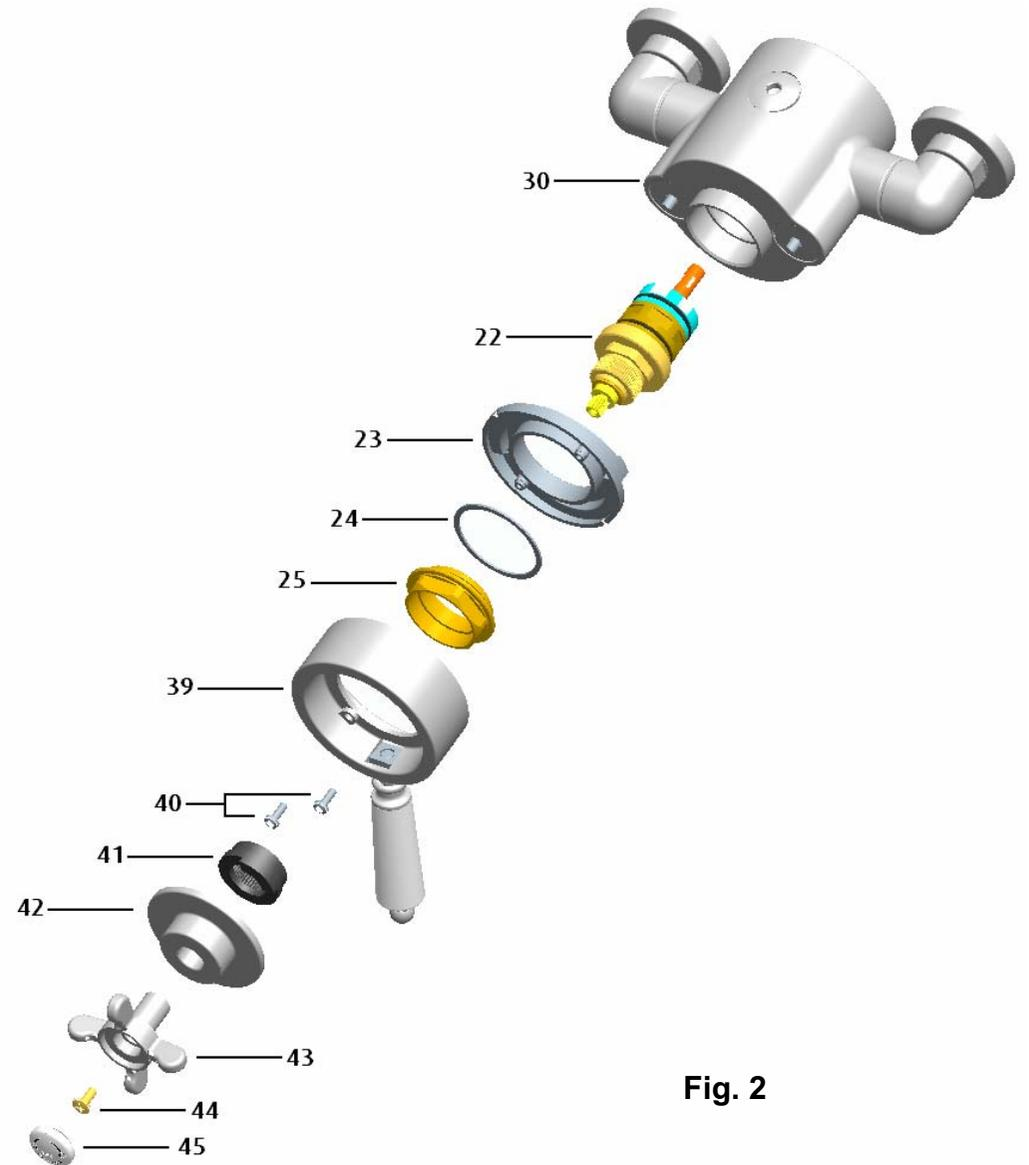

Fig. 2
8.3 Cartridge Removal (See Fig. 2).